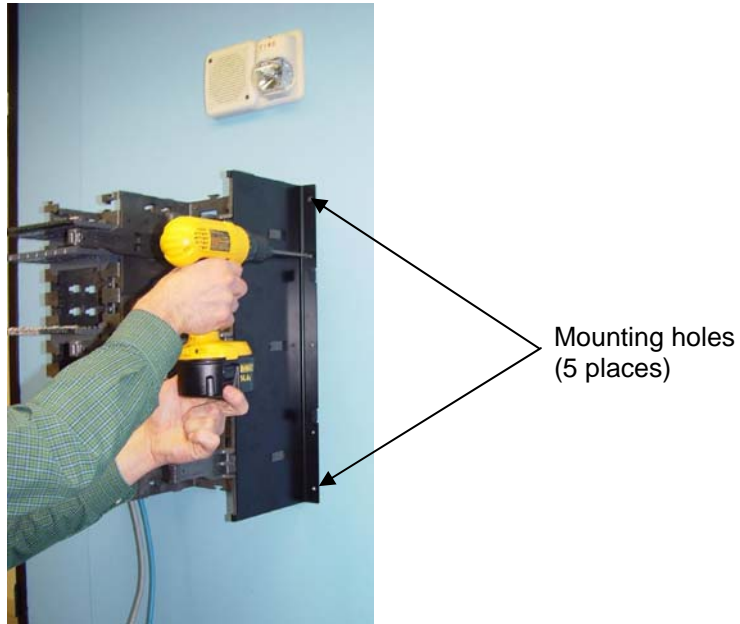

Figure 13 Secure Panel to Wall
4. Secure the panel to the wall using five #8 drywall screws (not included) as shown in Figure 13.